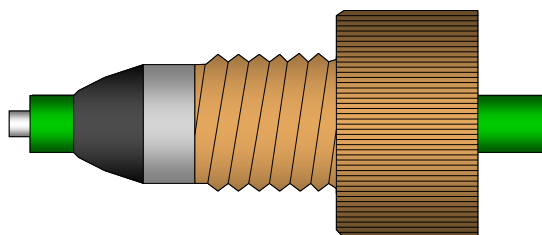

Figure 2-7: Nebulizer Inlet Fitting
- d) Screw the inlet fitting in the bulkhead on the left side of the compartment. Special care must be taken when positioning this fitting. The nebulizer is terminated with a small piece of Teflon tubing with an outer green sleeve. For proper operation, the Teflon tubing must extend less than 2mm past the end of the green sleeve (Figure 2-7).